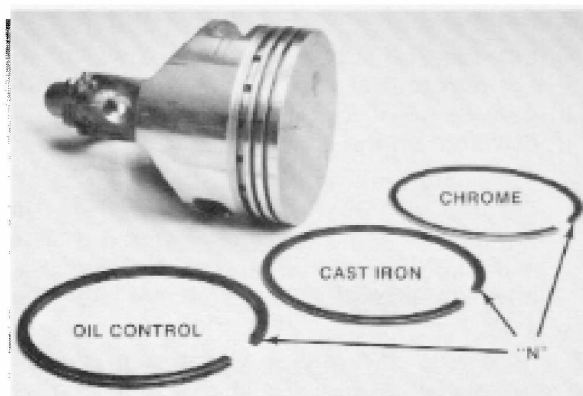

Figure 4-46
1. Use a ring expander to install three piston rings. The top ring is chrome plated, the second ring is plain iron and the third is an oil control ring. See Fig. 4-46.